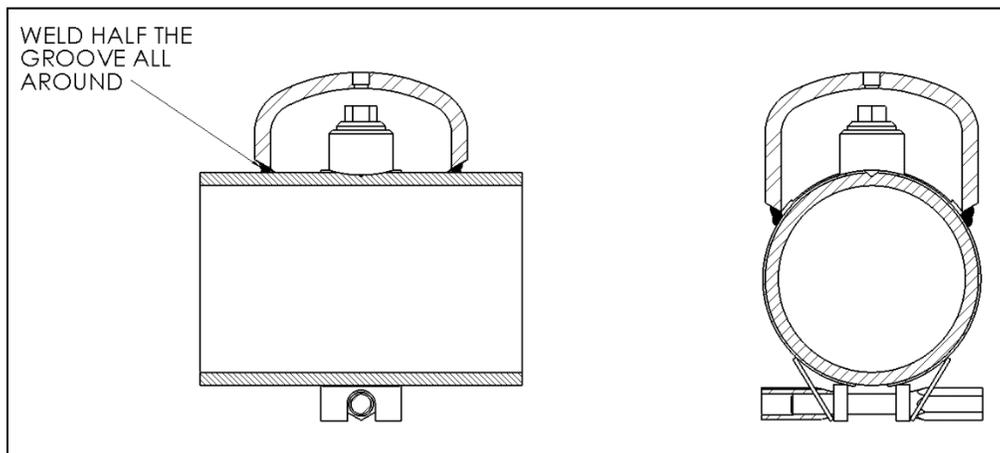

Figure 4
7. Weld the Weld+Cap to the draw band and the pipe by filling up approximately half the groove all the way around the Weld+Cap as shown in Figure 4.